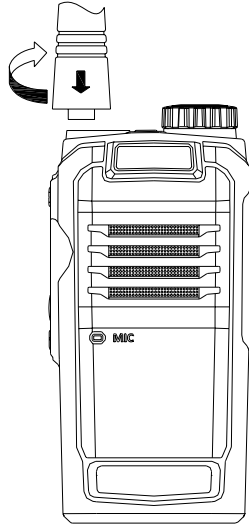

**Figure 4**
2. Hold the top part of the radio's body, and lift the battery in the direction of arrow ① by the notch at its bottom, and then remove the battery from the radio's body in the direction of arrow ②, as shown in Figure 4.